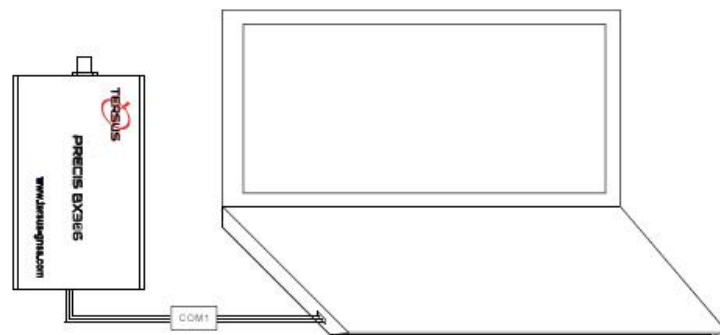

Figure 5.1 Download Files from eMMC Card with a Serial Port
- 1) Refer to Figure 5.1 and Figure 5.2 to create connection between a BX306/BX316 receiver and a computer;